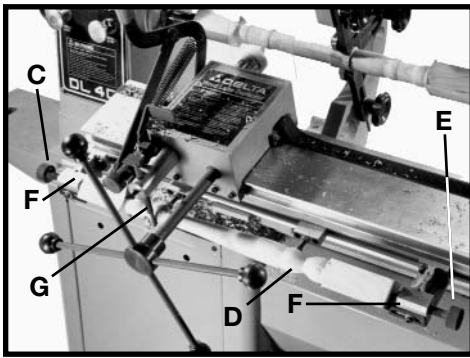

Fig. 75
3. To duplicate from a turning (D) Fig. 75, turn threaded pin (C) until the pointed end of pin (C) is inserted into the end of the turning. Turn threaded pin (C) enough to hold turning firmly in position. Loosen screw (E) and slide safety bracket (F) against end of turning. Tighten screw (E). Adjust the remaining holding bracket to the other end of the turning in the same manner. **NOTE: The two safety brackets (F) Fig. 75 keep the follower arm pin (G) from sliding off the edge of pattern (D) during operation.**